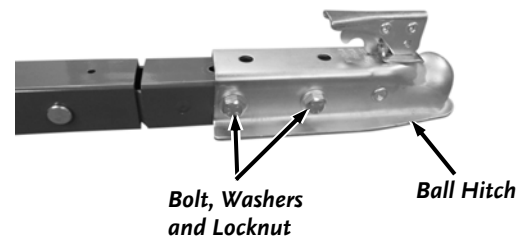

Figure 14
- a) Install the Ball Hitch onto the Tongue Bar with two 1/2-13 X 3.25" Bolts, 1/2" Washers (Bolt Side), 1/2" Washers (Locknut side) and 1/2" Locknuts using two 3/4" Wrenches (**Figure 14**).